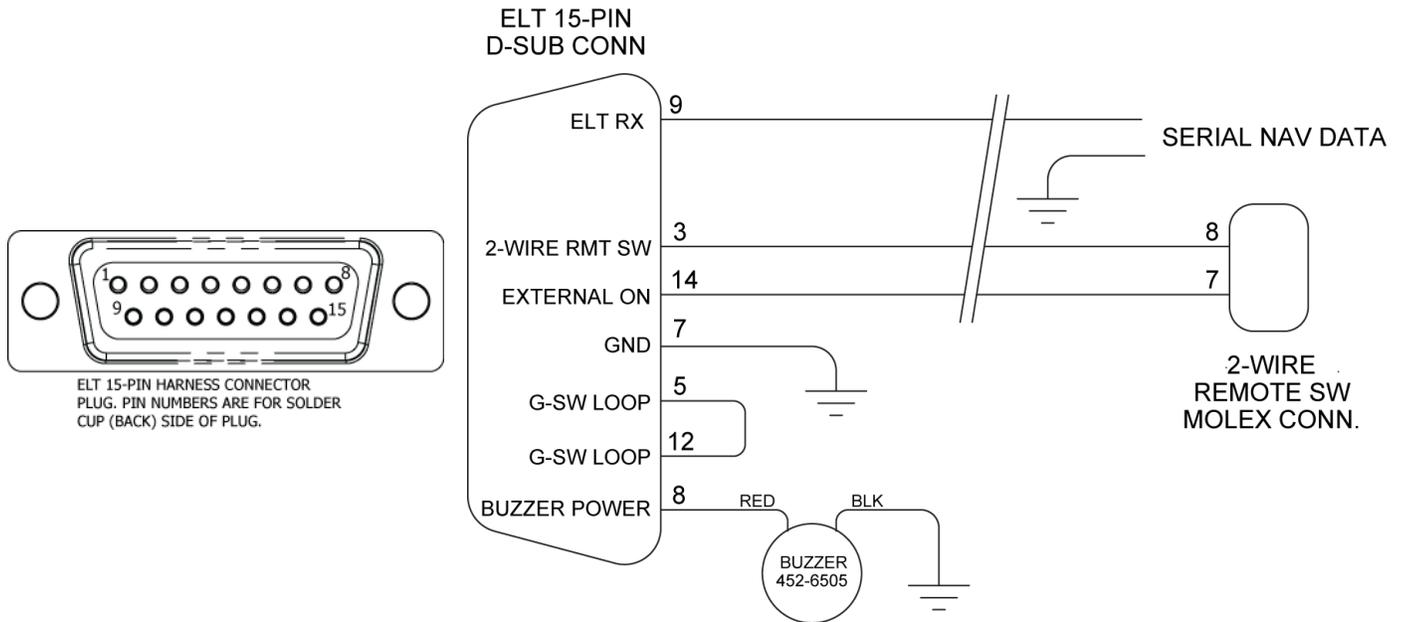
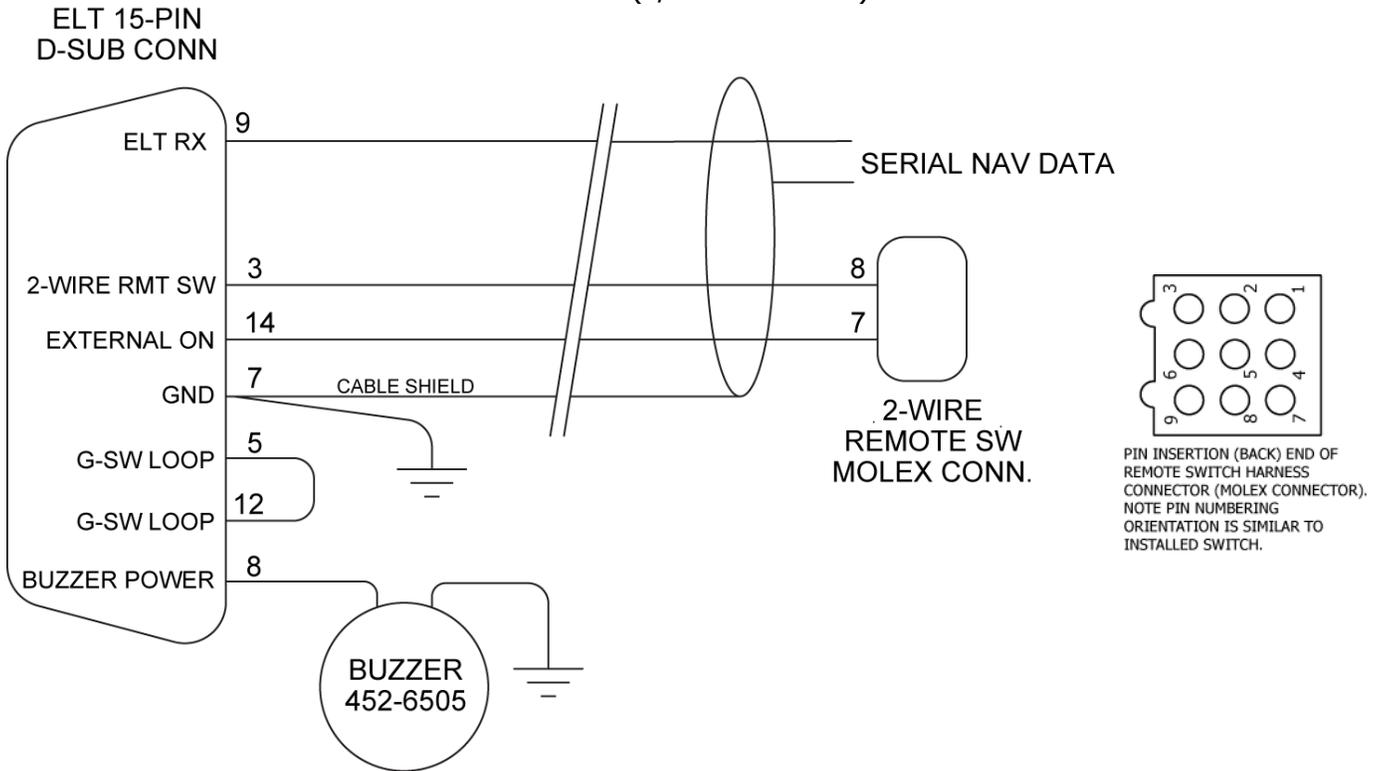

Figure 17 Typical 2-Wire Installation for Unshielded Harness
Figure 18 Typical 2-Wire Installation for Shielded Harness
- 5) Buzzer ground conductor may be soldered to the cable shield or ground pin for composite airframe installations (see Figure 18 Typical 2-Wire Installation for Shielded Harness on page 46 for composite airframe wiring diagram).
- 1) Insert the wiring pins into the Molex 9-pin cockpit remote switch plug. Refer to Figure 17 Typical 2-Wire Installation for Unshielded Harness on page 45, Figure 18 Typical 2-Wire Installation for Shielded Harness on page 46.
- 1) Connect the ground wires to the airframe as described in AC 43.13-1, Chapter 11, § 15, as applicable. Refer to Figure 17 Typical 2-Wire Installation for Unshielded Harness on page 45, Figure 18 Typical 2-Wire Installation for Shielded Harness on page 46 as appropriate.